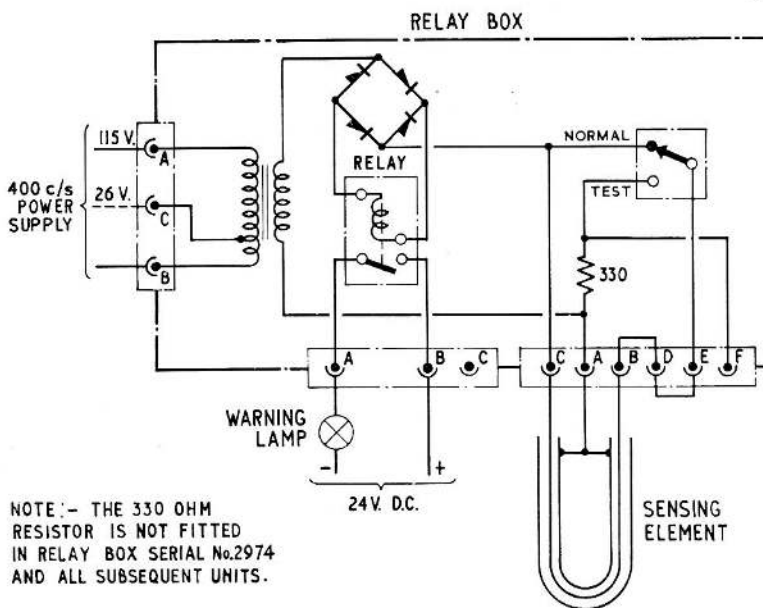

Fig. 3. Circuit diagram
6. The circuit diagram of the relay box being used in conjunction with a sensing element is shown in fig. 3. From this diagram it will be seen that, with the test switch in its normal position, both ends of the sensing element are connected in parallel to the rectifier and thence to one side of the secondary winding of the transformer.